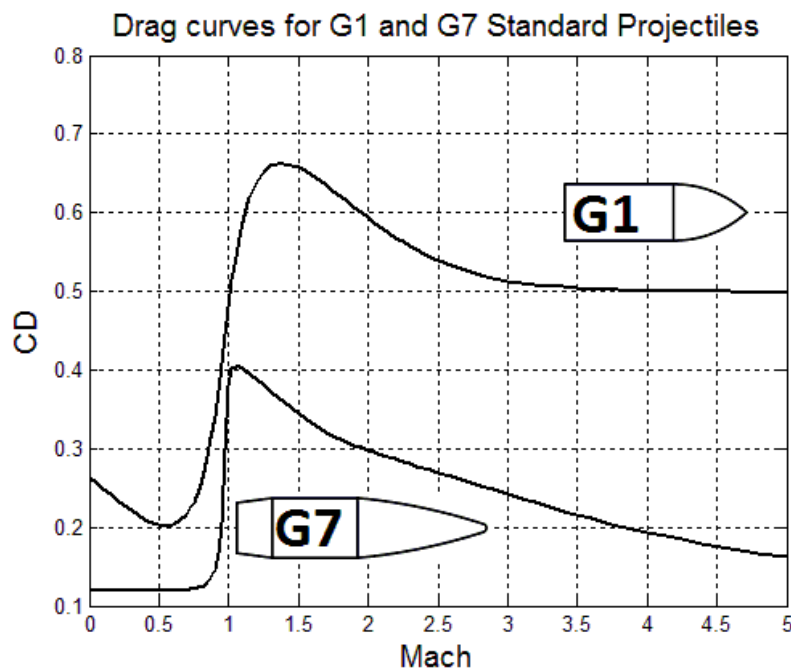

Figure 1. G1 and G7 standard projectile models and their associated drag curves.
Some of you may have read about G1 and G7 standard projectiles and standard drag models. Figure 1 below shows these two standard projectile shapes and the associated drag curves that go with them. Now, a lot has been made of these so called *drag curves*, and how well they represent the *drag curves* of modern bullets. But what IS a *drag curve*? What physical significance does it have? Why does it appear the drag goes down as velocity (Mach number) goes up? Shouldn't drag increase with speed? Certainly feels like it when I put my head out the car window and hit the gas...
Here's what's going on in Figure 1. The Coefficient of Drag (CD) is plotted against the Mach number. The Mach number is how fast you're going in relation to the speed of sound. For example, Mach 2 is 2 times the speed of sound, Mach 3 is 3 times the speed of sound, etc.
And now we're finally getting to the point. As we stated in the beginning, *the coefficient of drag (CD) is a number that scales the basic drag calculation for the shape of the projectile*. A bullet like a wadcutter which is purely blunt in front and back will have a drag coefficient close to 1 because the frontal area is taking the full brunt of the dynamic pressure. It's experiencing all the drag possible. But if you give the projectile an ogival nose and maybe a boat-tail, *it will experience less drag at the same speed*. The drag coefficient is the number that describes how much. Going back to Figure 1, you can see that at Mach 3 (3348 fps), the G1 projectile has a drag coefficient of 0.51, while the G7 projectile has a drag coefficient of only 0.24. In the previous section we learned that at Mach 3, a .308 caliber bullet has 6.9 pounds of drag applied to it at this speed (dynamic pressure times bullet frontal area). However, this is the maximum potential drag that could be experienced by something; the wadcutter shape. In reality, a modern projectile shaped similar to the G7 standard will only experience about 24% of that 6.9 pounds due to its shape (CD is 0.24).
Hopefully this background has shown you how the drag coefficient plots like those in Figure 1 actually relate to something physical. The following summary will highlight the important insights you should move forward with:
If you've been paying attention, you'll recall that in Figure 1 the G1 drag curve was much higher than the G7, and here they're shown as nearly equal in supersonic speeds. This is because the drag curves are scaled to the projectile drag measurements via a form factor. This is explained in great detail in Chapter 2 of *Applied Ballistics for Long Range Shooting* [REF 1].